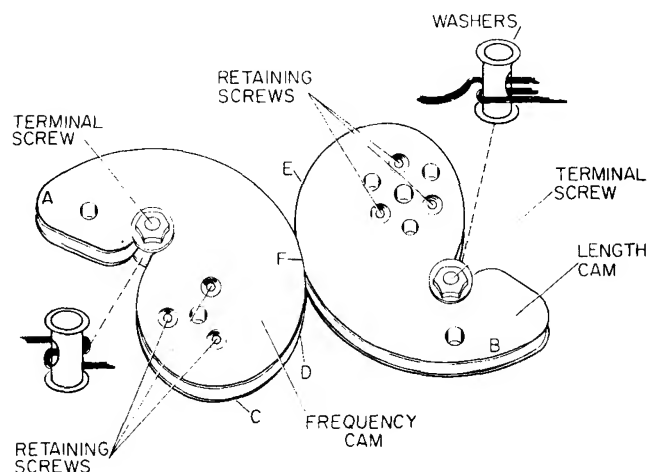

Figure 5-7. Cam Assembly
For easier access to the cams, remove the screws holding the High Voltage circuit board and swing the board out of the way. Use Figures 5-7 and 5-8 as a guide and proceed as follows:
k. Slide cable through one terminal screw so that cable is oriented to terminal screw as shown in Figure 5-7 for the Frequency Cam, and install terminal screws on Frequency Cam.
Each cam as shown in Figure 5-7 has two lips along which the cable should travel: one cable must travel along the upper lip of both cams and one cable must travel along the lower lip of both cams.
t. Slide cable ends through second terminal screw so that cable is oriented to terminal screw as shown in Figure 5-7 for the Length Cam.
w. Turn FREQUENCY (MC) knob to match Frequency Cam to pencil mark made in step e; the other marks made should match appropriately.